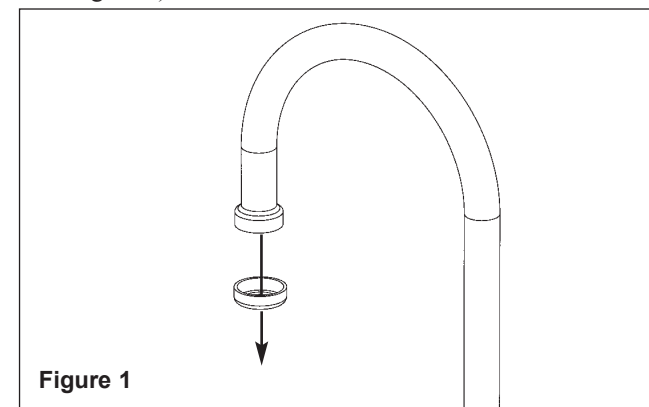

Figure 1
- Remove the existing aerator from the faucet (see Figure 1).